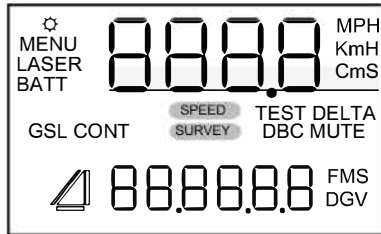

Figure 9. LCD Display Segments
1. Press the **TRIGGER**. Briefly, the screen display should look like Figure 9 below, and then the display will change to the Speed Measurement Screen.